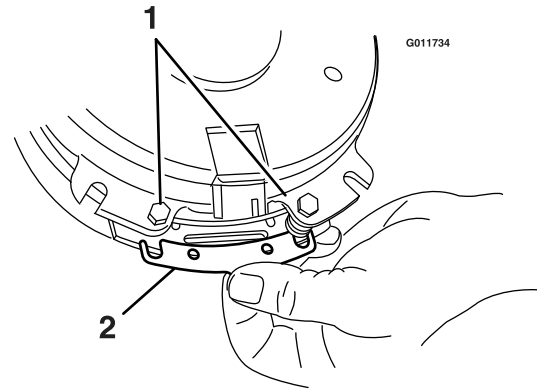

Figure 42
- A. Loosen both brake mounting bolts one-half to one full turn (see Figure 42).